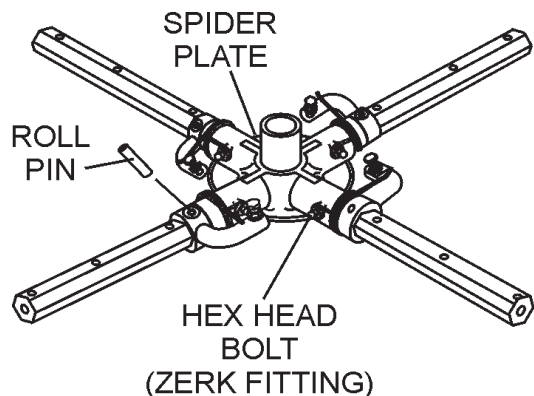

Figure 43. Removing Roll Pin and Zerk Grease Fitting
1. Each trowel arm is held in place at the spider plate by a hex head bolt (zerk grease fitting) and a roll pin. Remove both the hex head bolt and the roll pin (Figure 43) from the spider plate.